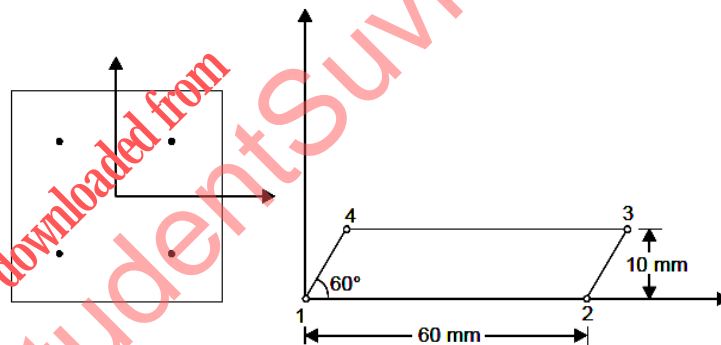

Figure 3
6. Assemble Jacobian matrix and strain displacement matrix corresponding to the Gauss point (0.57735, 0.57735) for the element shown in figure 3. [10]